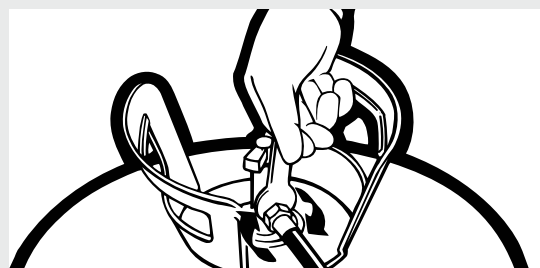

Figure 2.
- Apply a thin coating of petroleum jelly to the inside face of the Insta-Flo™ Dispenser. This makes cleaning of the dispenser face much easier and extends the effective life of the Insta-Flo™ Dispenser. (See figure 2)